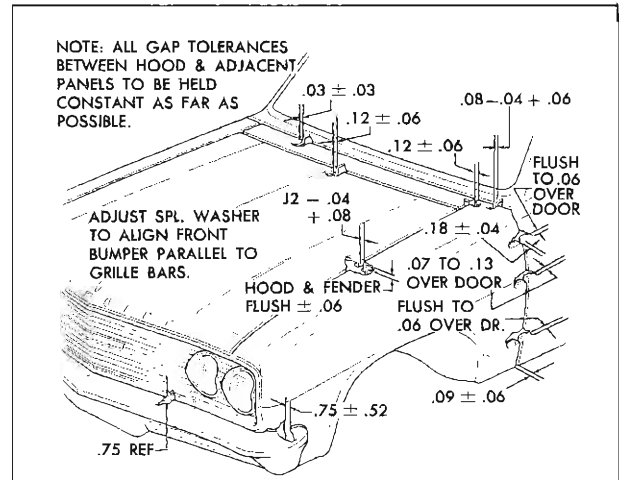
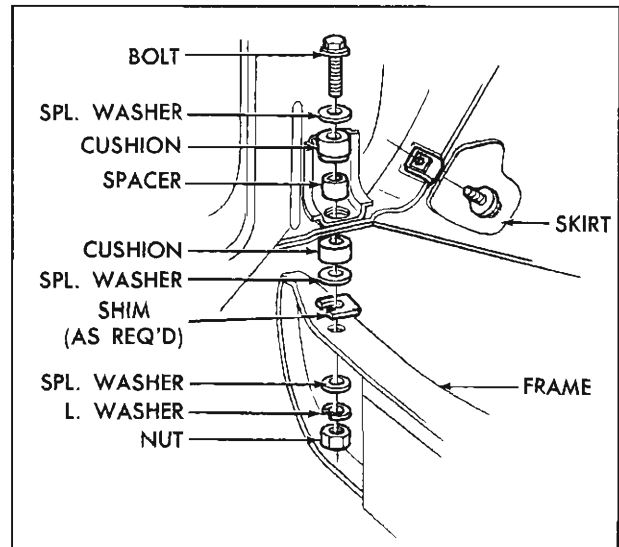

Fig. 14—Sheet Metal Adjustments
Fig. 15—Fender to Radiator Support and Tie Bar
The alignment of the hood proper in relation to other sheet metal parts is controlled by the position of the hood hinges and the height of the two bumpers located one at each end of the forward edge of the hood. The adjustments at the hood latch must be made after the hinges and bumpers are positioned to yield the dimensions shown in Figure 14. Latch adjustments are made so that effort required to open and close the hood is reasonable and so that the hood alignment obtained by hinge and bumper adjustment is maintained when the hood is closed. Note that the hood latch is not designed or intended to correct basic hood alignment faults.
For proper operation of doors and hood, and for presentable appearance, front sheet metal must fit within the tolerances shown in Figure 14. Sheet metal is adjustable at six points (three on each side of car) by means of spacer shims shown in Figures 15 and 18.
7. Remove screw and washer assemblies attaching the fender and fender reinforcement to the Radiator support and tie bar (See Figure 15).
3. Remove tie bar and grille support bracket attachment from radiator support (See Figure 15).
4. Remove radiator support frame bolts, nuts, washers and shims - record shims (See Figure 15).